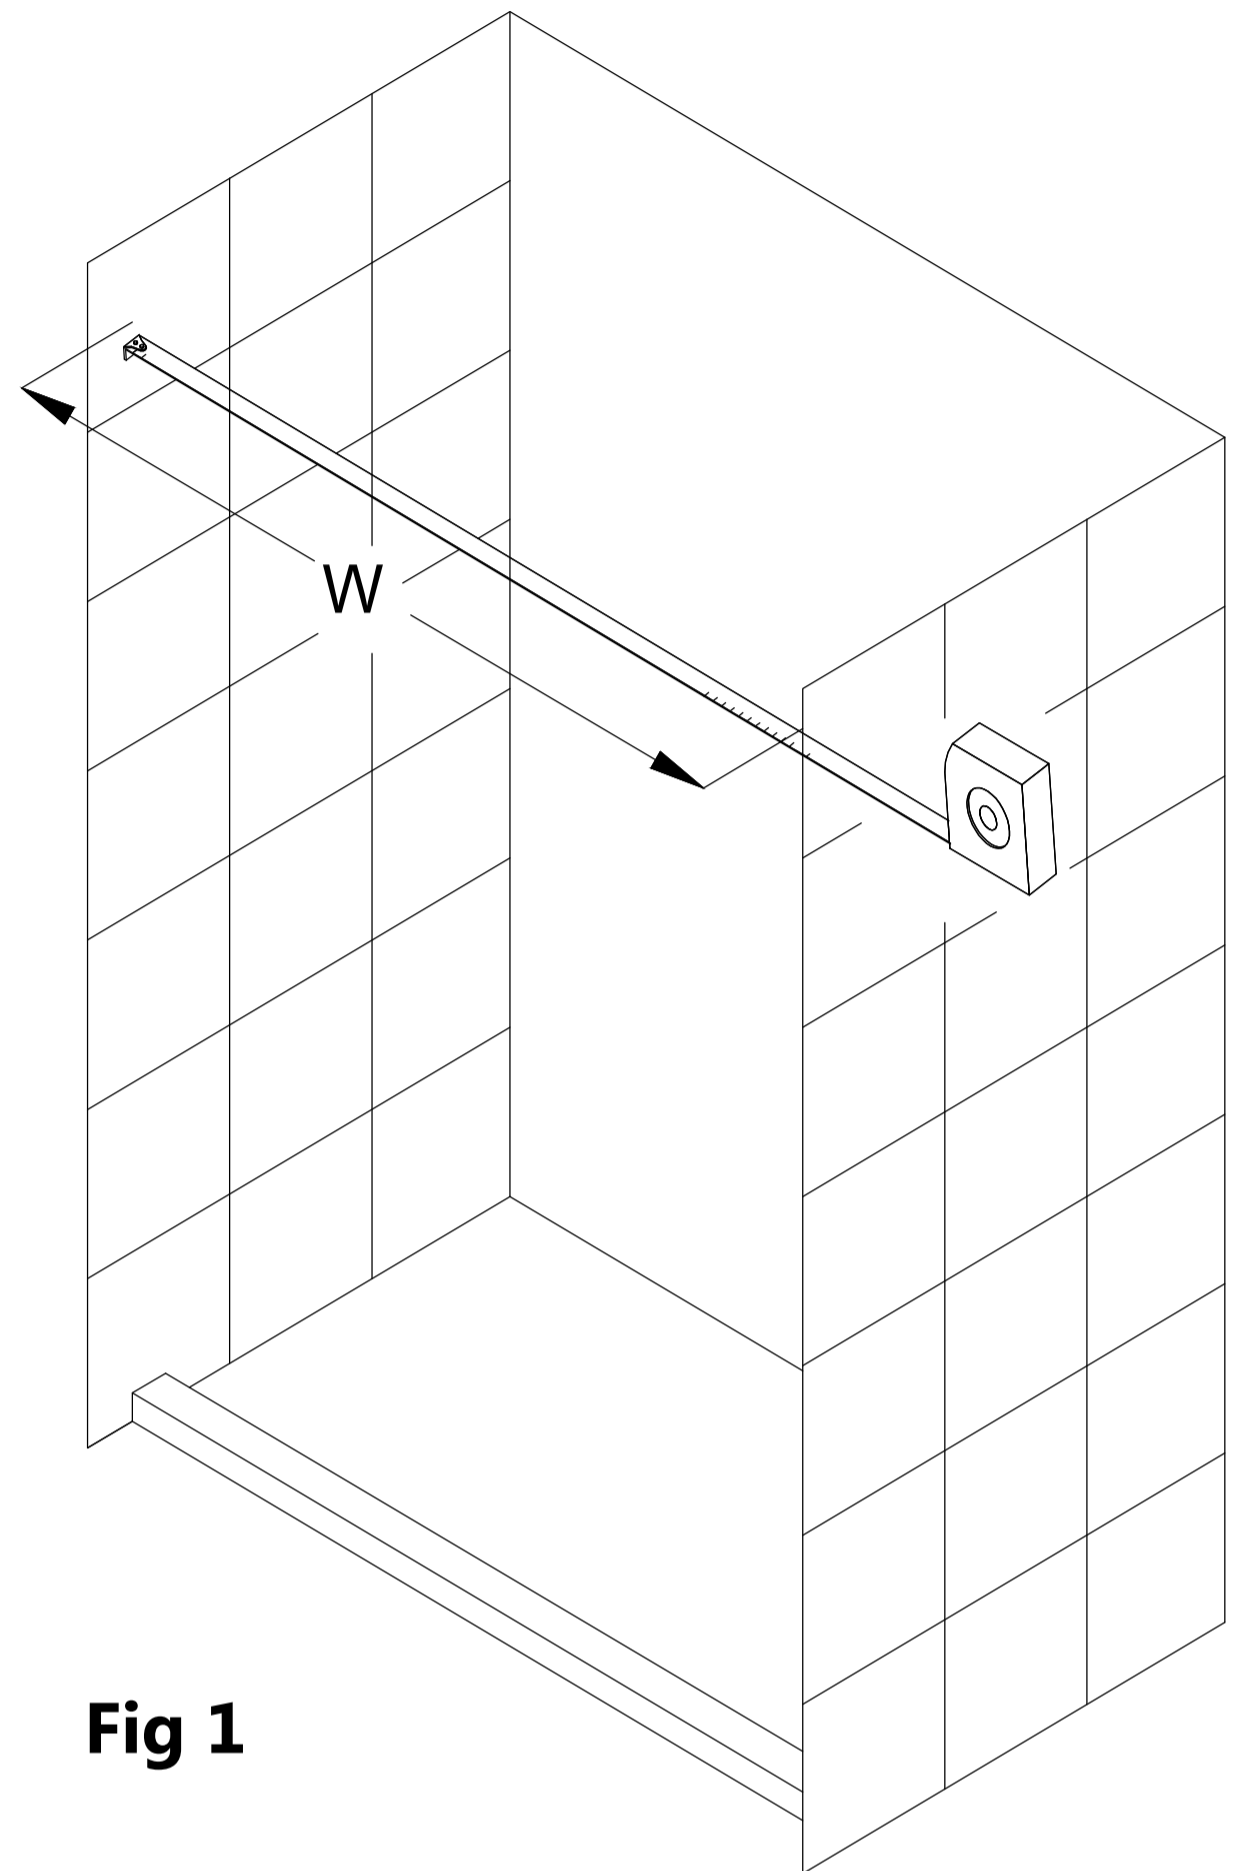

Fig 1
This distance will represent the finished opening size "**W**" that will be used to calculate the finished cut dimension for the **Upper Guide Rail (I)**. **(Fig 1)**